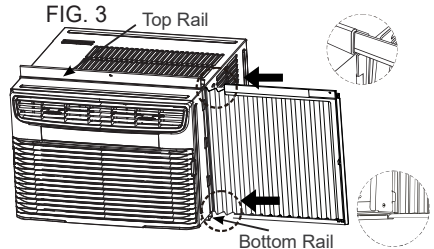

FIG. 3
- C. Once the panel has been installed on the side of the cabinet, make sure it sits securely inside the frame channel by making slight adjustments. Slide the top and bottom ends of the frame into the top and bottom rails of the cabinet. See FIG. 3.